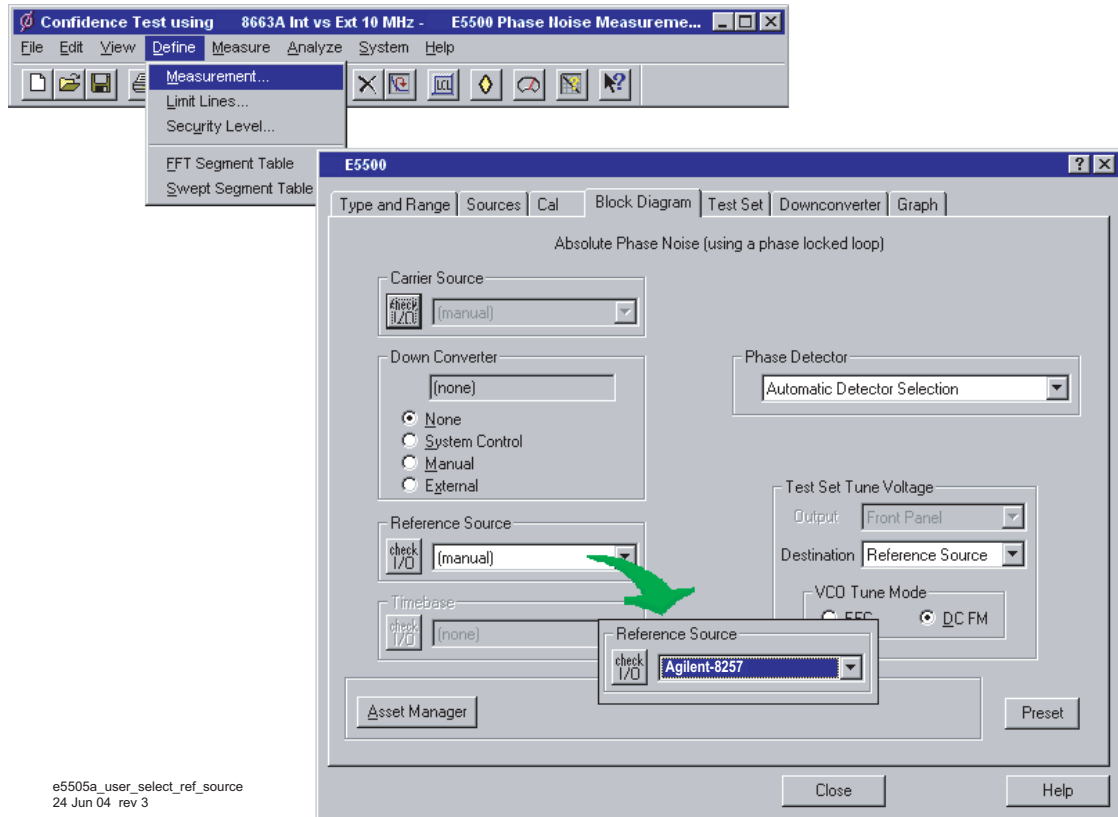

Figure 123 Selecting a reference source
- 1 Using Figure 123 as a guide, navigate to the **Block Diagram** tab.